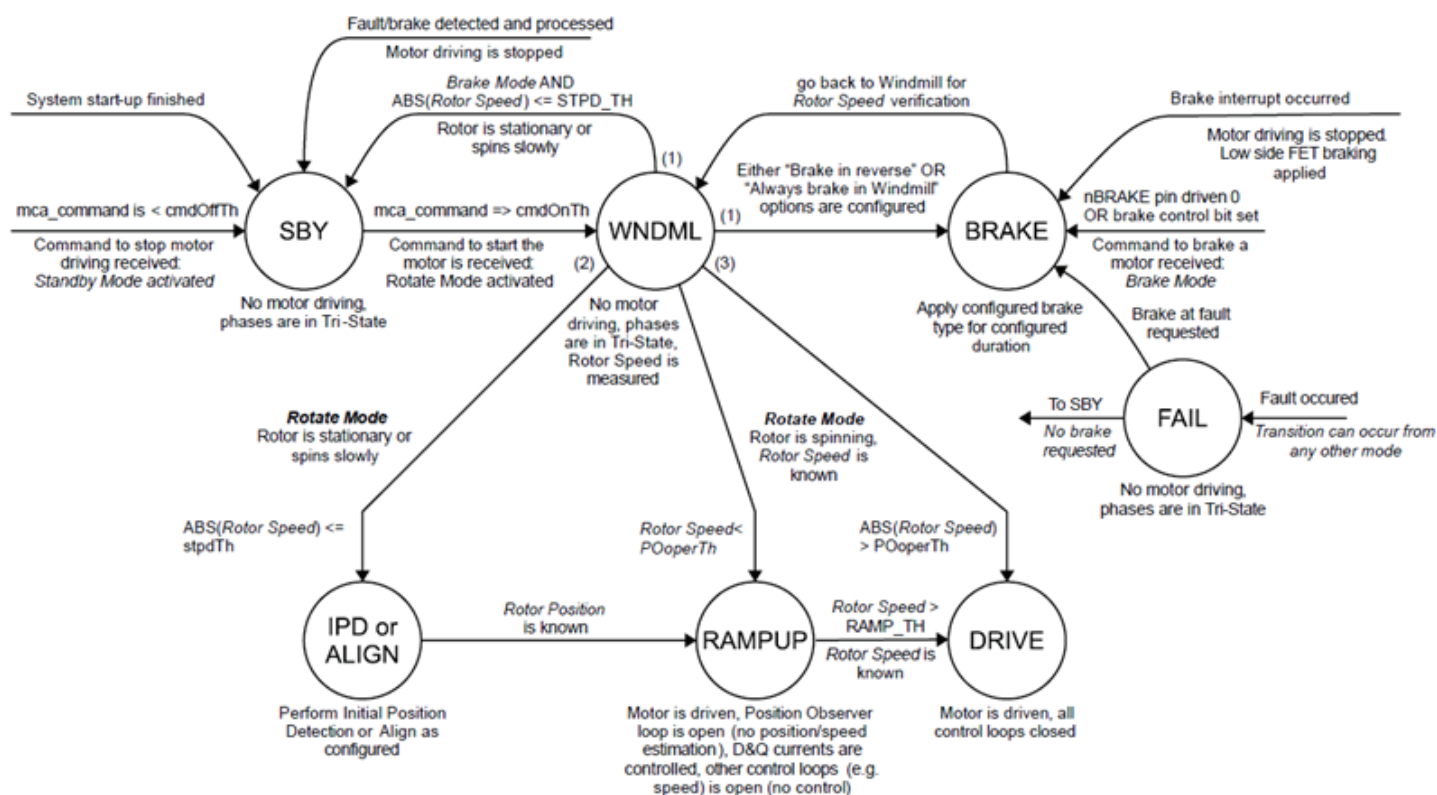

Figure 26: MCA FSM
- Standby (SBY) mode: Activated after completion of the system startup routine or after receipt of a command to stop driving the motor (MCA finite state machine, FSM, enters standby state. (See Figure 26).
The states of the MCA FSM are shown in Figure 26.